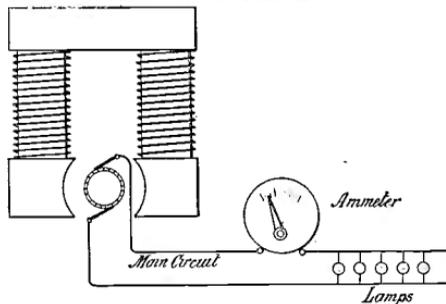

FIG. 49.
current given by a dynamo or battery, (4) the total current taken by a motor, (5) the volts at the ends of a known resistance, (6) the resistance of a wire or coil of wire. Fig. 49 shows an ammeter connected in the main circuit of a dynamo lighting a number of lamps, the whole of the current passing to the lamps flows through the ammeter, which thus indicates, not the current taken by one lamp or by any particular lamp, but total the current taken by them altogether.